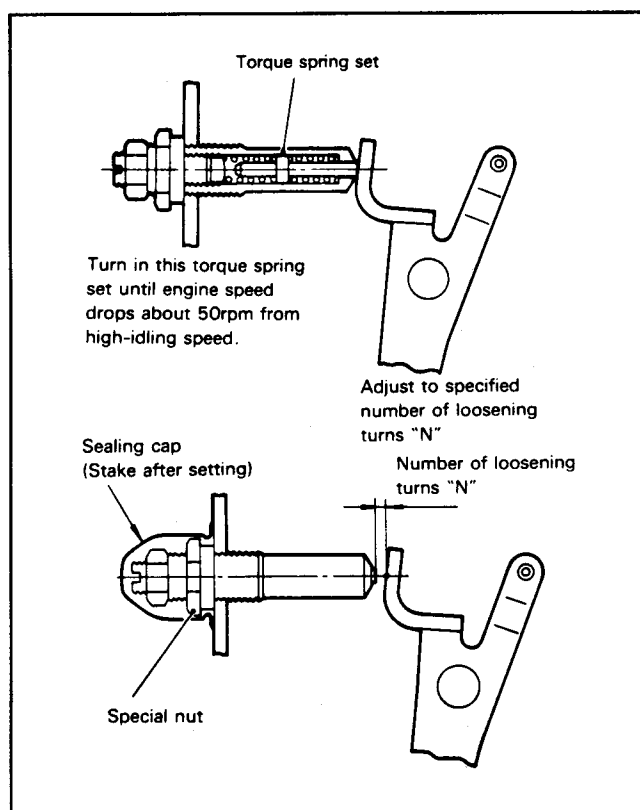

Figure 36
3. Turn the torque spring set (Fig. 36) clockwise until engine speed drops approximately 50 rpm from high idle speed.